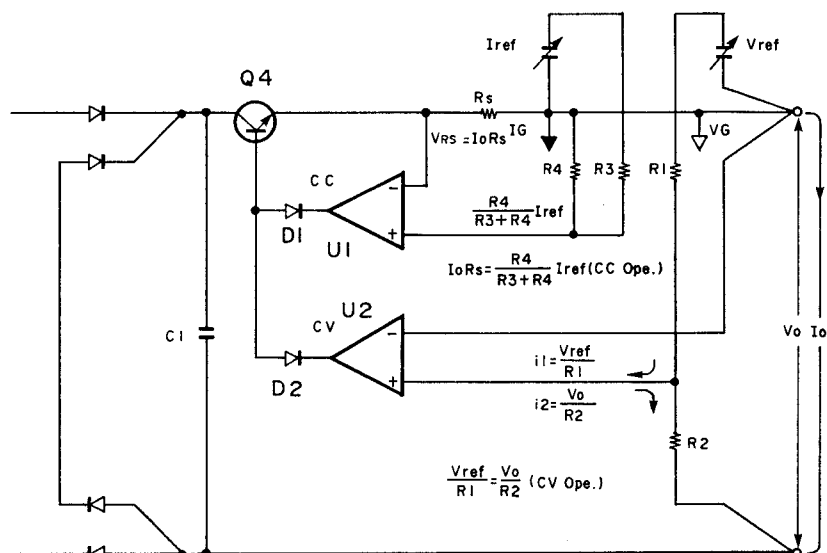

Fig. 2 With the PD series, the constant output voltage and current are obtained by changing the Vref and Iref.
3. VOLTAGE/CURRENT CONTROL CIRCUIT (See Fig. 2)